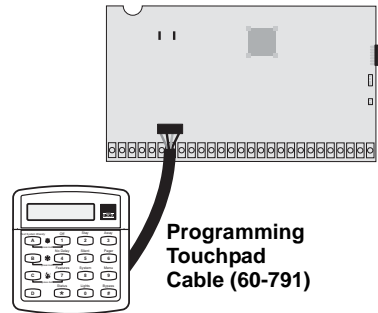

Figure 38. Connecting a Programming Touchpad
3. Connect the plug on the cable onto the panel programming touchpad header (see Figure 38).